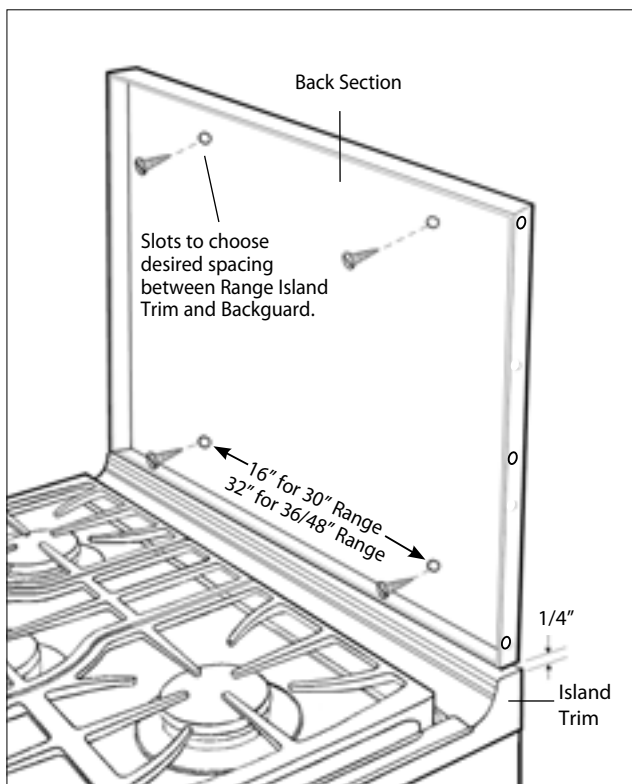

Fig.03
2. After unpacking all backguard system parts, locate the Back Section 1/4" (see fig. 03) above and centered over the Island Trim attached to the range.* Secure Back Section to wall with the appropriate fasteners (not supplied) to anchors or wood stud (fig. 03).